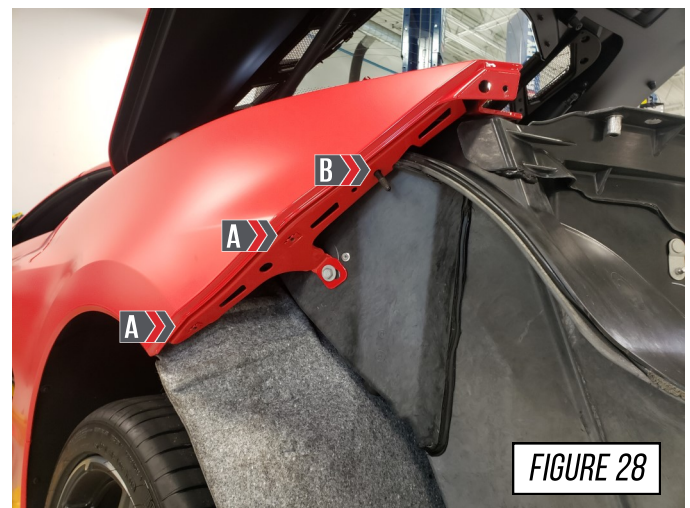

FIGURE 28
Pull back the wheel liner and reinstall the 2 torx screw (A) and the 1 nut (B) per side, as shown in **Figure 28**, with the bumper already removed.